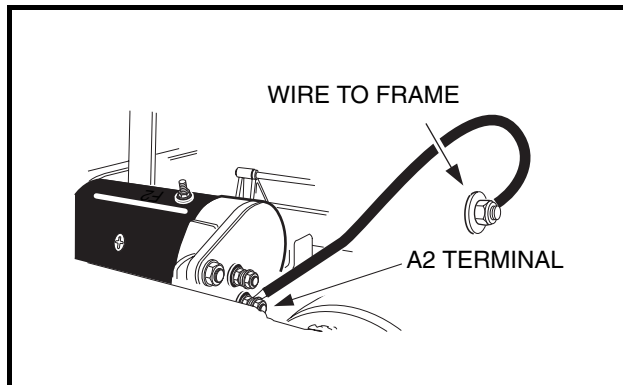

Figure 11-6 Test Starter/Generator Ground Strap
- 3.1. Set the multimeter to 200 ohms. Place the red (+) probe on the (A2) terminal of the starter/generator and place the black (–) probe on the vehicle frame (**Figure 11-6, Page 11-12**). The reading should be continuity. If the reading is incorrect, clean and tighten wire connections. If the connections are good and the reading is incorrect, repair or replace the wire.